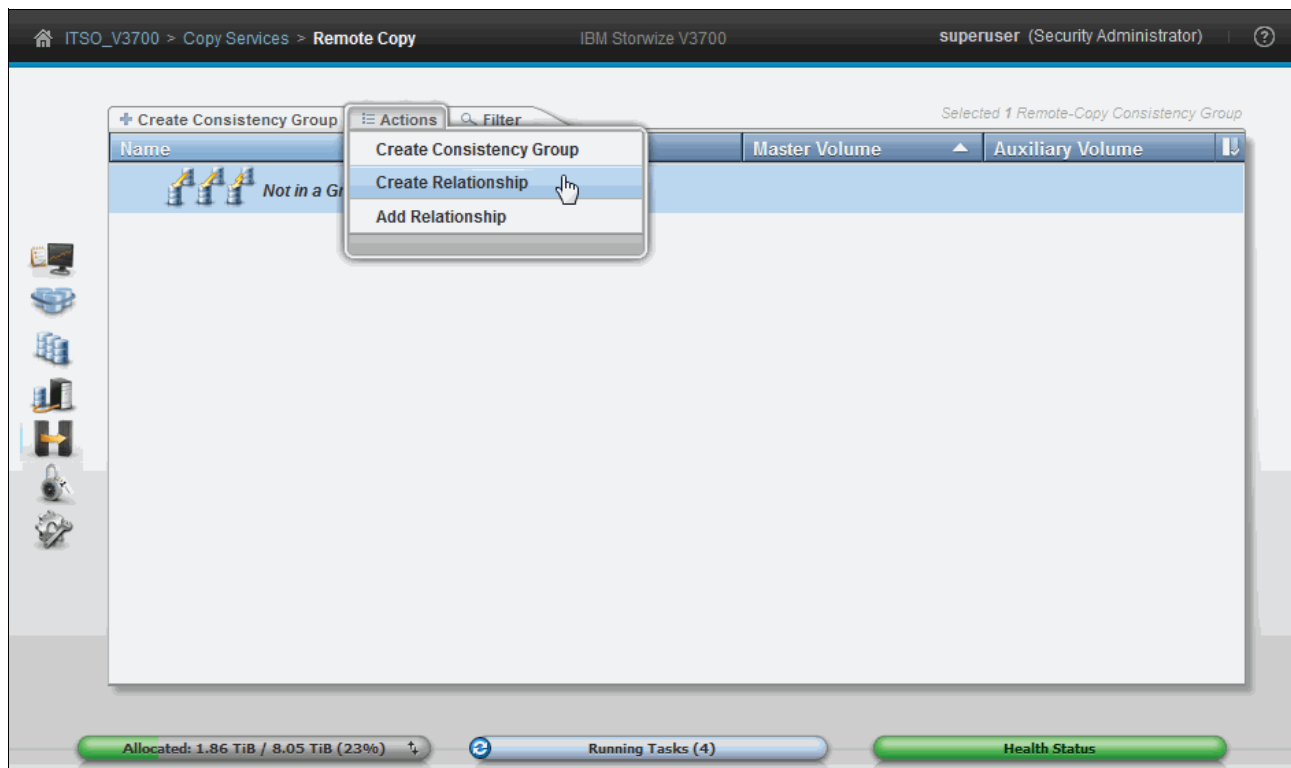

Figure 10-98 Creating a remote copy relationship
1. Click **Create Relationship** from the **Actions** menu, as shown in Figure 10-98. A wizard opens and guides you through the Remote Copy relationship creation process.